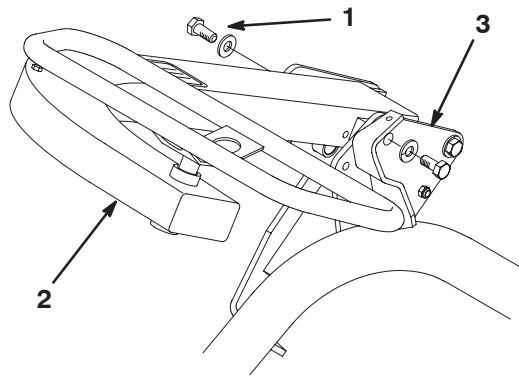

Figure 7
3. Select the desired mounting hole for operator comfort and secure the arm with 2 capscrews (1/2 x 3/4 in.) and washers (1/2 in.) (one each in loose parts) (Fig. 7).